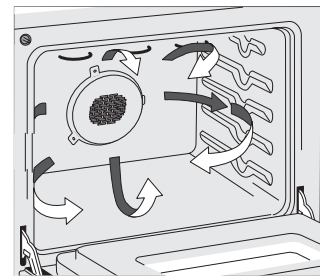

Fig. 1
Speed Bake™ Cooking System uses a fan to circulate the oven's heat uniformly and continuously around the oven. This improved heat distribution allows for fast, even cooking and browning results. It also gives better baking results when using two racks at the same time (See Fig. 1).
2. Arrange the interior oven rack and place the broiler pan on the rack. Be sure to center the broiler pan directly under the broiler element. **Make sure the oven door is in the broil stop position** (Fig. 1).